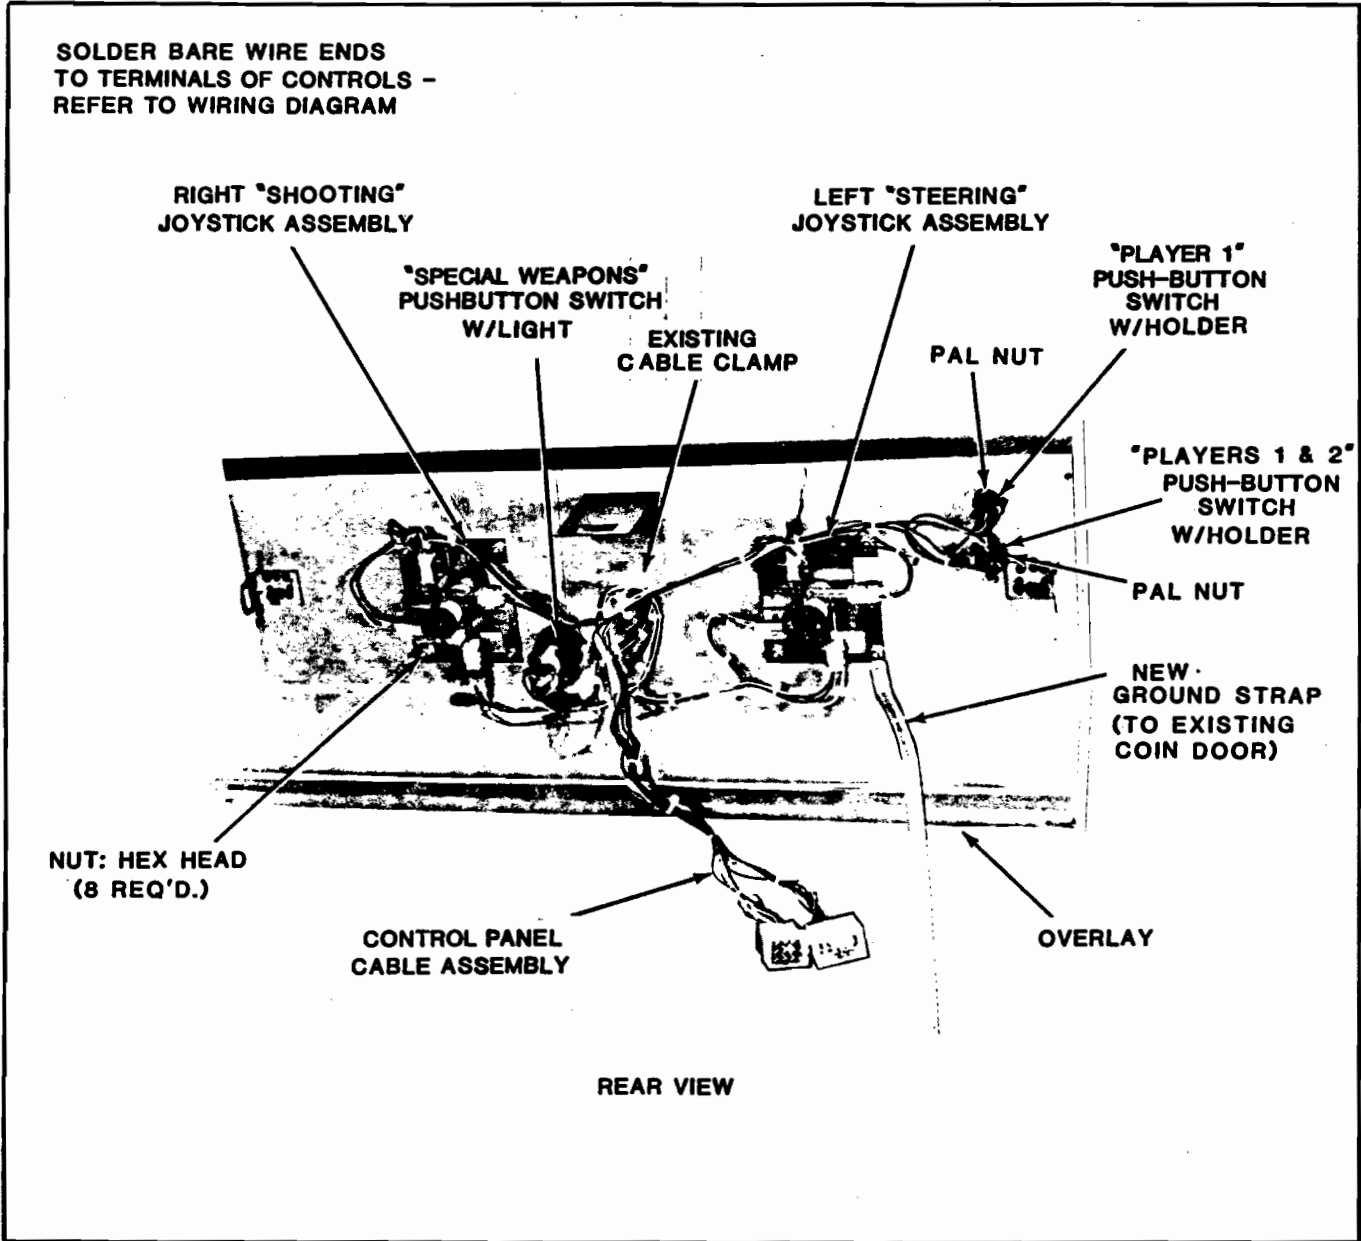
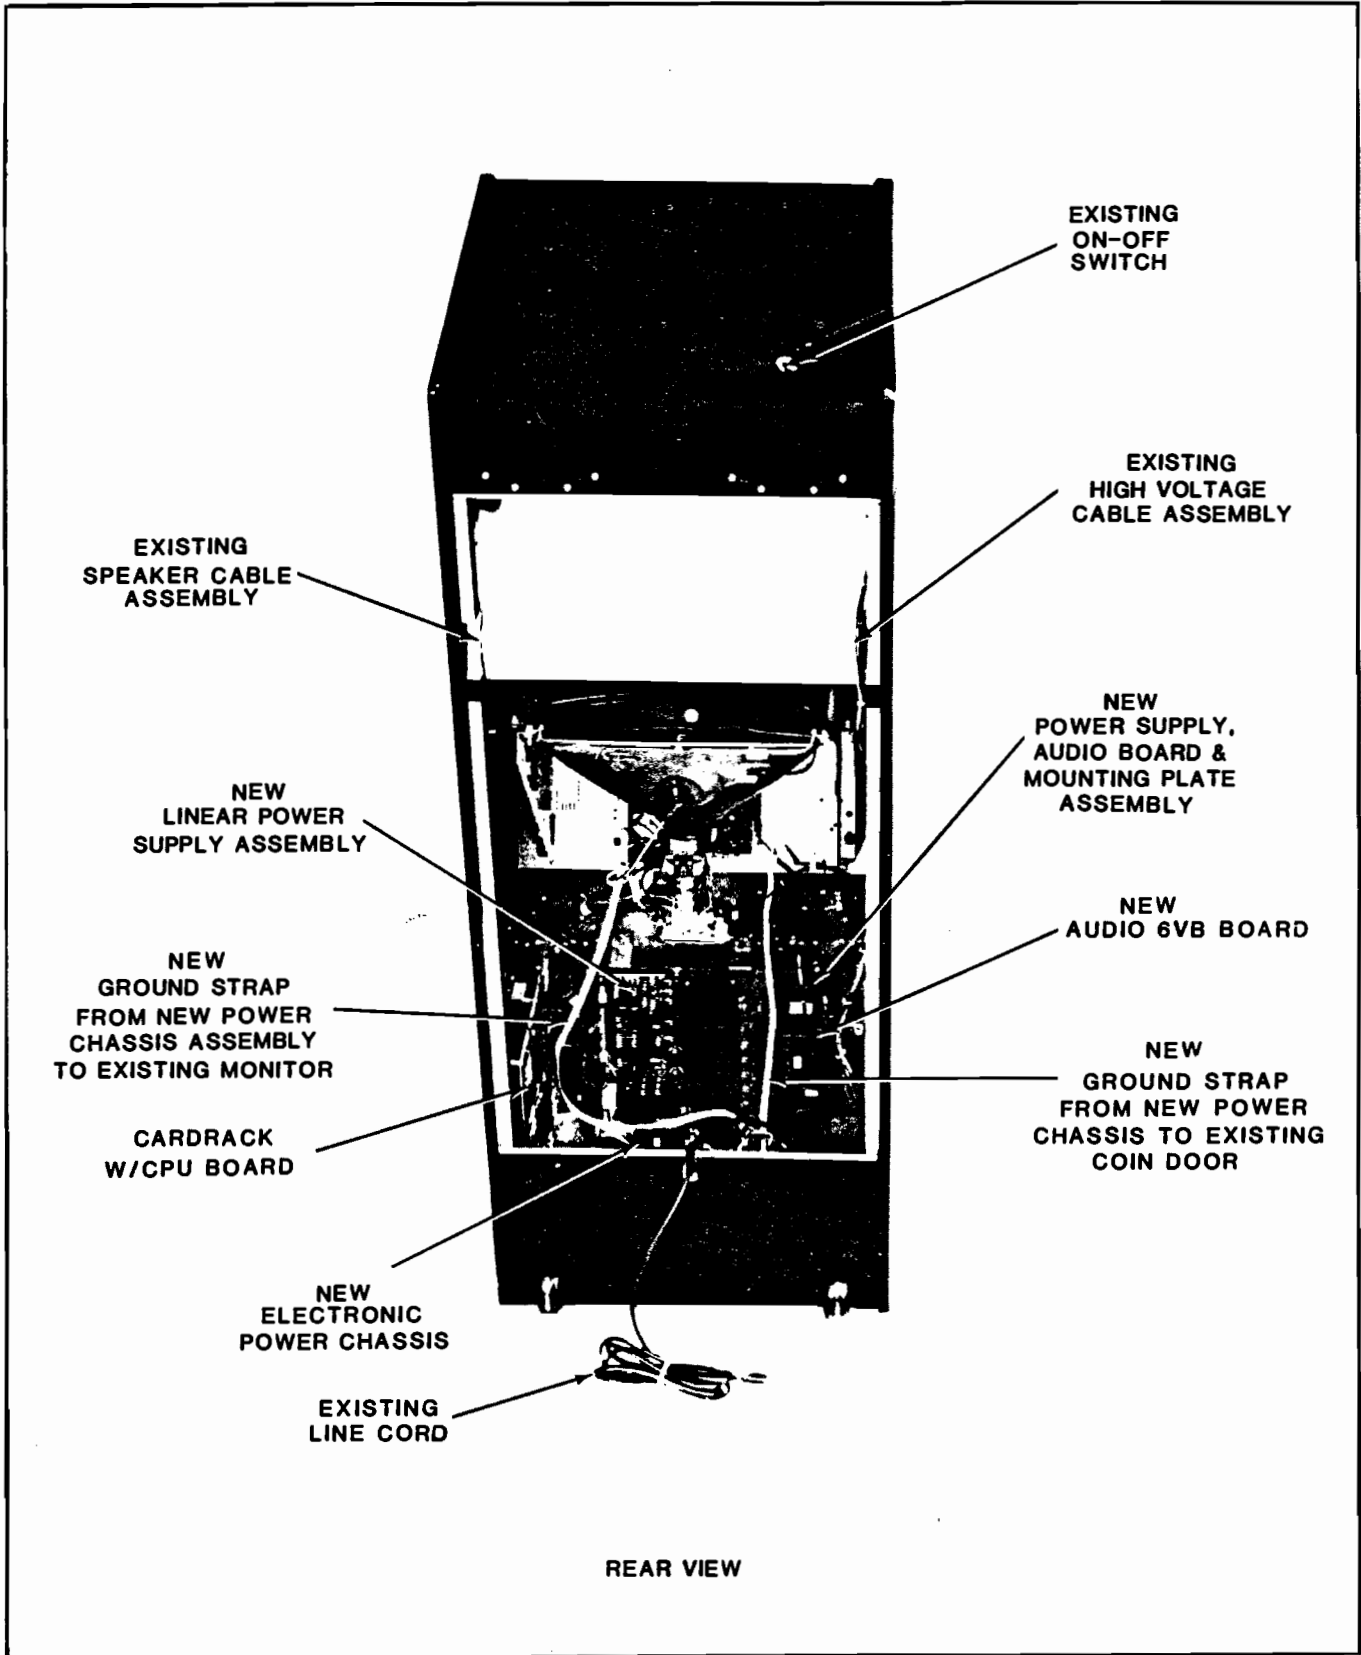

FIGURE 2. NEW CONTROL CABLE ASSEMBLY CONNECTED
FIGURE 3. PLACEMENT OF NEW ELECTRONIC ASSEMBLIES IN GAME CABINET
- F. Route new Control Panel Cable Assembly and solder its' bare wire ends to terminals of new controls as shown in Figure 2 and Wiring Diagram (page 1 of 2). Reuse existing cable clamps.
2. Install new POWER CHASSIS ASSEMBLY, new POWER SUPPLY, AUDIO BOARD & MOUNTING PLATE ASSEMBLY, and new CARDRACK WITH CPU BOARD ASSEMBLY to inside of your cabinet in locations as suggested in Figure 3. Transformer on POWER CHASSIS ASSEMBLY should be to your left in your cabinet. We recommend that you use #8 wood screws of sufficient length to secure above new assemblies to your cabinet.
3. To install new Master Cable Assembly (refer to Figure 3 and both wiring diagrams):
7. Installation of four (4) new Ground Straps which are supplied in your kit (refer to Figure 2, Figure 3, and POWER CHASSIS ASSEMBLY Illustration):